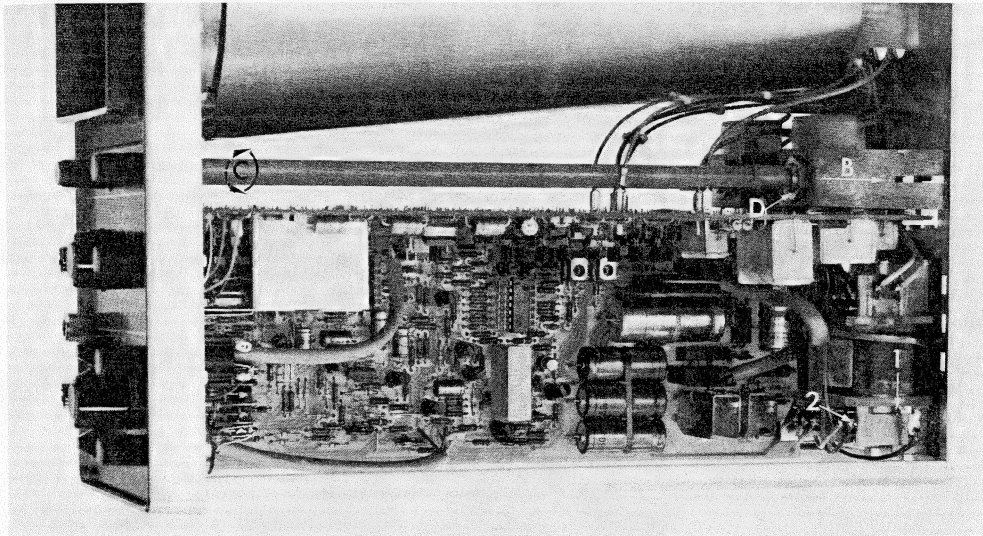

Fig. 2.6. Dismantling
- spring out nylon brackets B (Fig. 2.6.) through the holes of the rear panel.
- simultaneously rotate spindle C (Fig. 2.6.) and pull to withdraw square through alignment hole.
- unscrew hexagonal nut D (Fig. 2.6.) to remove potentiometer.
- spring the two nylon bracket lips Q (see Fig. 2.6.), at rear of tube, inwards and taking care of mumetal screen, withdraw the c.r.t. through front panel sufficiently to allow the c.r.t. base connector to be removed, (push in nylon bracket to assist).